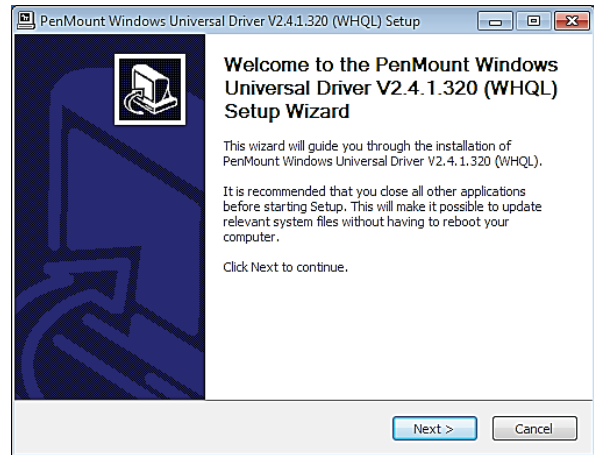

Fig.2
Step 2: When the setup wizard appears, click “Next” to continue (Fig.2).